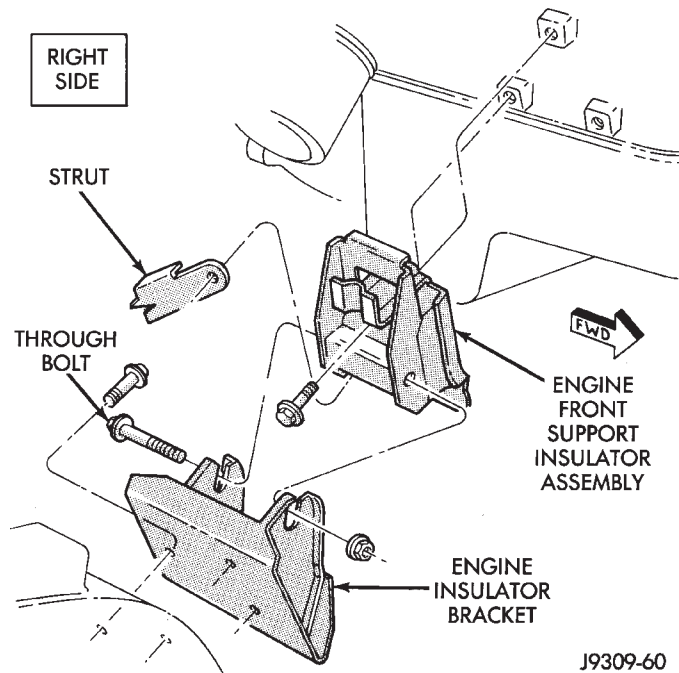
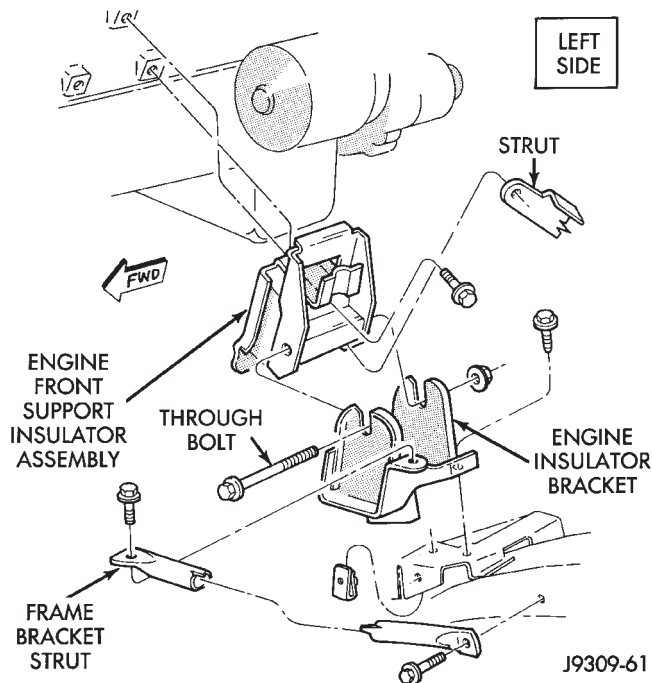

Fig. 14 Engine Right Front Insulator Mount—2WD Vehicles
Fig. 15 Engine Left Front Insulator Mount—2WD Vehicles
- (3) Install engine lifting fixture.
- (4) Raise vehicle on hoist.
- (5) Remove bolts and washers holding front support insulator assembly and the strut to the engine block (Fig. 14) (Fig. 15). Move the strut out of the way.
- (6) Remove the insulator thru-bolt (Fig. 14) (Fig. 15).
- (7) Raise engine with lifting fixture SLIGHTLY. Remove the insulator assembly.
- (1) If the engine insulator bracket was removed, install the bracket to the crossmember. Tighten the bolts to 68 N·m (50 ft. lbs.) torque.
- (2) With the engine raised SLIGHTLY, position insulator assembly onto the engine block (Fig. 14) (Fig. 15). Position the strut onto the insulator assembly and install bolts and washers. Tighten the bolts to 41 N·m (30 ft. lbs.) torque.
- (3) Lower engine with lifting fixture while guiding insulator assembly into the engine insulator bracket.
- (4) Install insulator to bracket thru-bolt. Tighten the thru-bolt nut to 68 N·m (50 ft. lbs.) torque.
- (5) Remove lifting fixture.
- (6) Connect the negative cable to the battery.